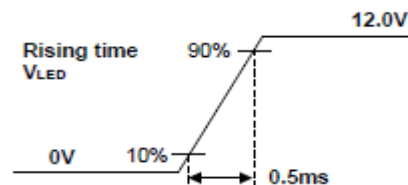

Figure 5. Inrush Measure Condition
3. Measure condition (Figure 5).